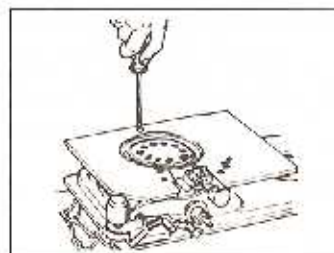

Fig. 15
- (6) Remove 3 screws holding the heat shield (Fig.15).